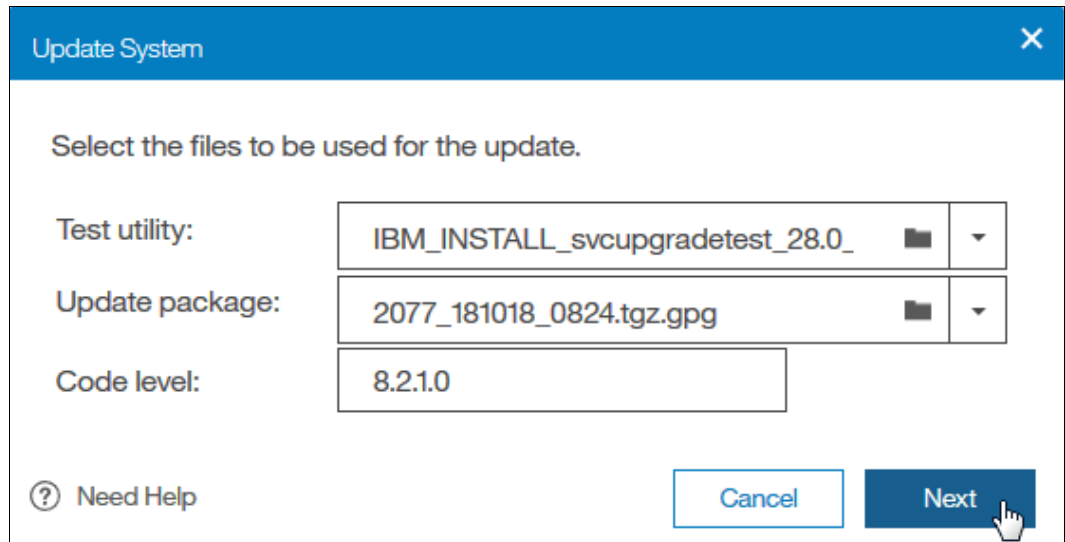

Figure 12-47 File selection
2. Select the test utility and update package files by clicking the folder icons, as shown in Figure 12-47. The code levels are entered automatically.